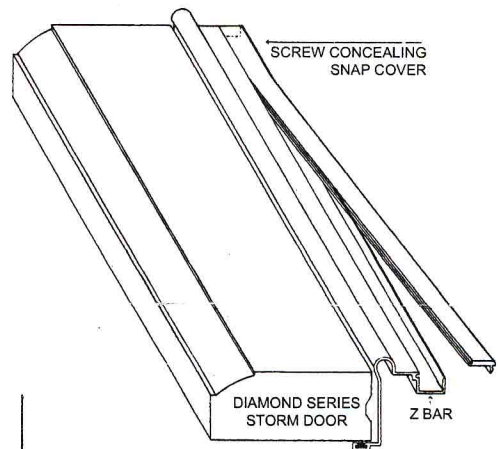

Figure 4
11. Install Screw Concealing Snap Cover on Z Bars. Begin by cutting Hinge Side and Latch Side Snap Cover to length. Starting at the top end, place edge of Snap Cover into Z Bar Groove and press into place. (Fig. 4)
14. Install Screw Concealing Snap Cover on Z Bars. Begin by cutting Hinge Side and Latch Side Snap Cover to length. Starting at the top end, place edge of Snap Cover into Z Bar Groove and press into place. (Fig. 4)